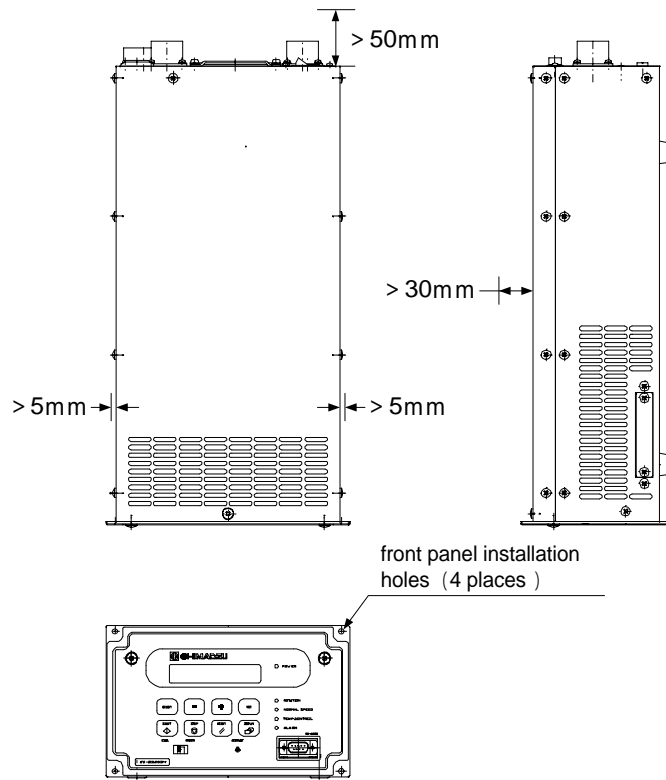

Fig.5-1 Leave enough space around the power supply unit
- (3) In order to ensure that the interior of the power supply unit is cooled sufficiently, leave a gap inside the rack of at least 30 mm above, 5 mm on either side, and 50 mm to the rear of the power supply unit (See Fig. 5-1).